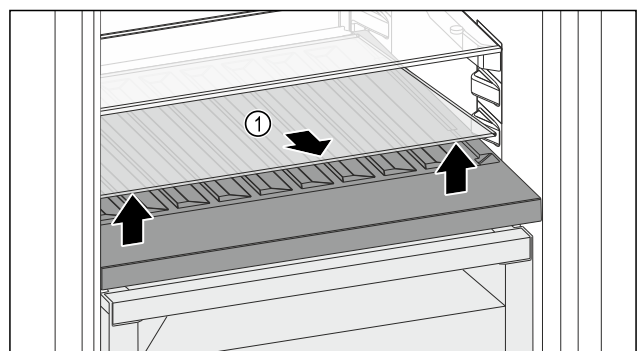

Fig. 180
- Lift the glass shelf Fig. 180 (1) at the front and remove.
- Store the glass shelf Fig. 180 (1) in a safe place outside the appliance.
- Insert the glass shelf (2) under the variable bottle rack.